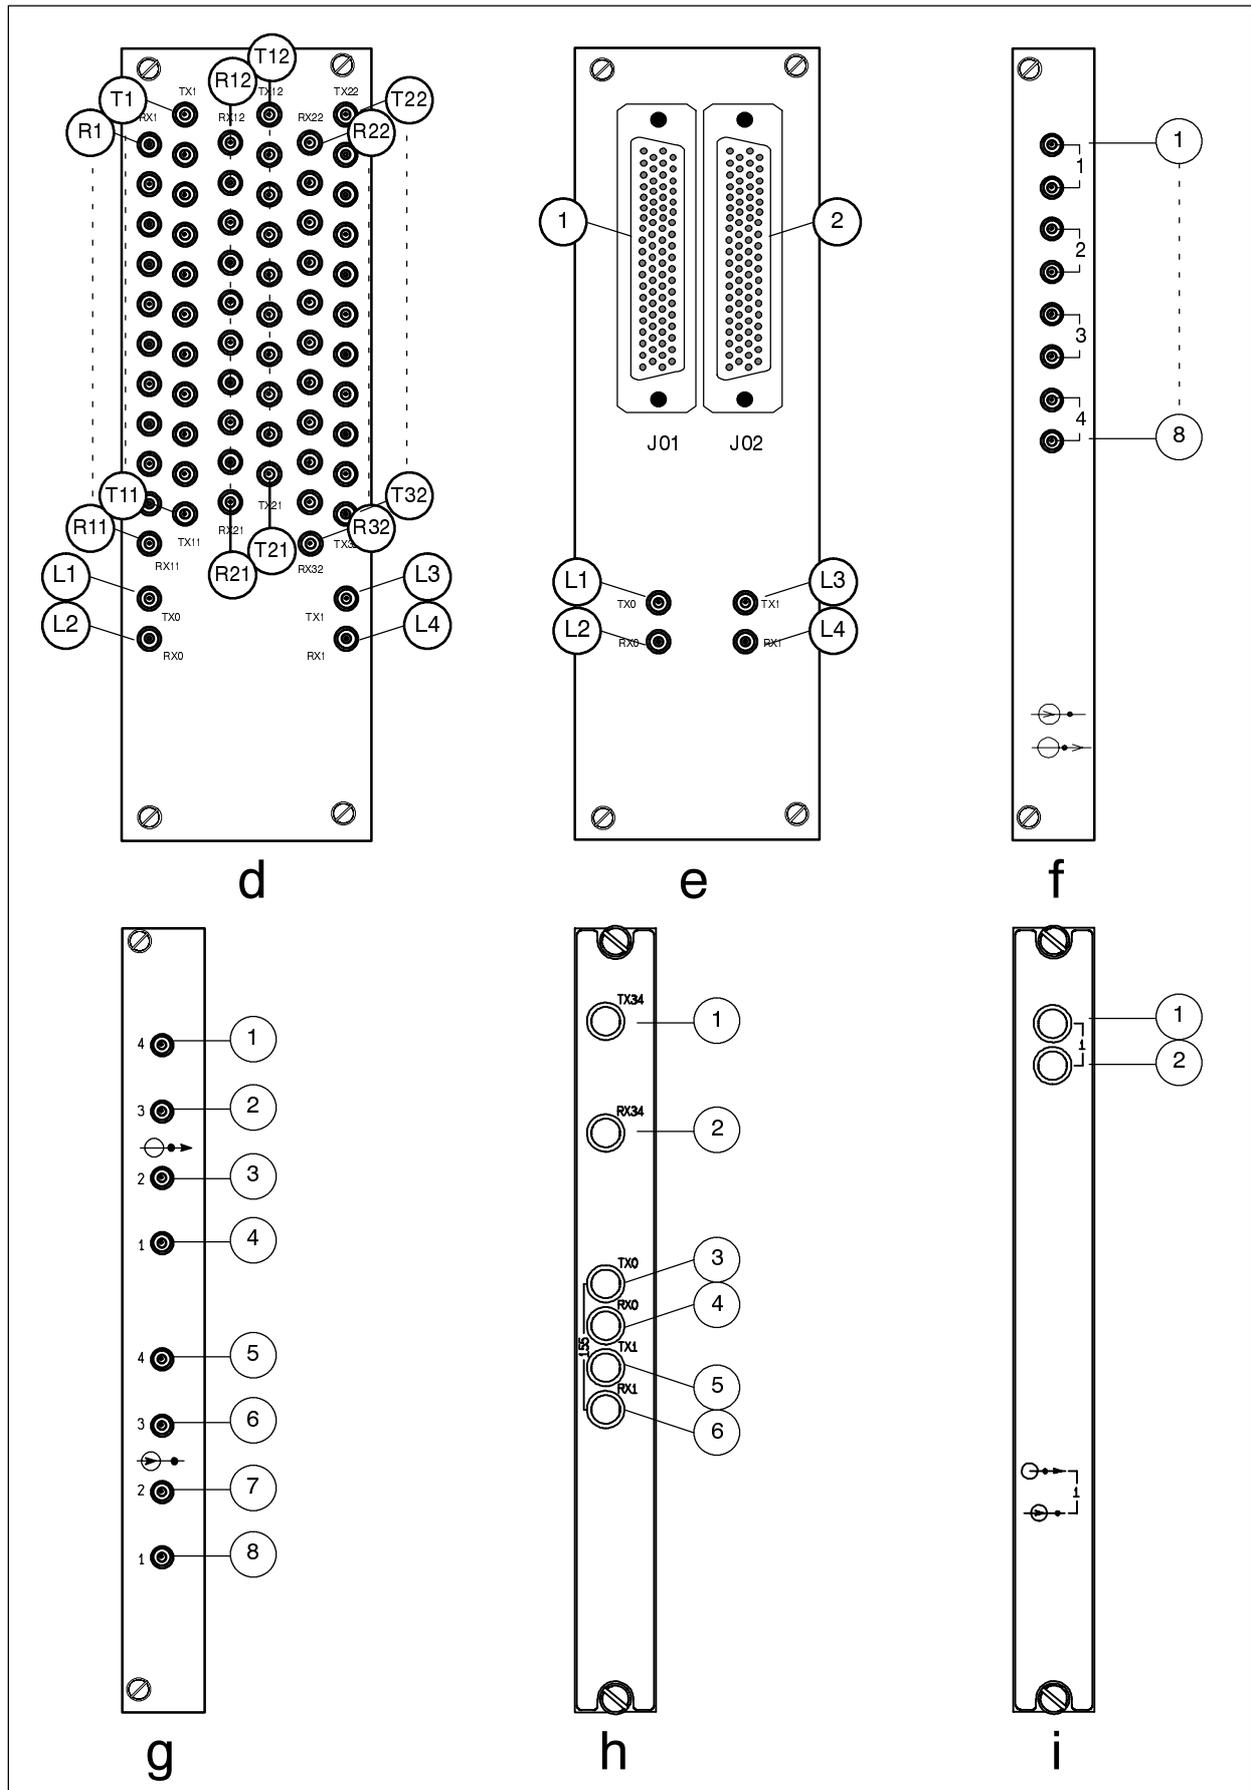

Fig. 2.3-3 Traffic signals connection panels.
- ◆ Fig. 2.3-3 the different kinds of traffic signal connection panels